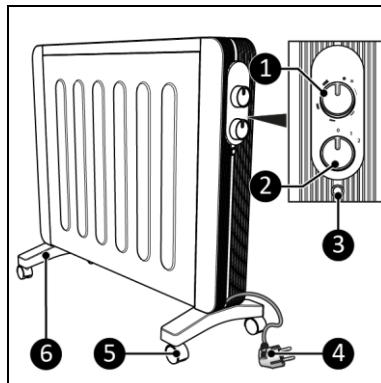

Figure 2
The product is an easy-to-use electric heater for indoor use (Figure 2).
2. Make sure the control knob is in the '0' position (Figure 2, pos. 2).
1. Turn the control knob (Figure 2, pos. 2) to the desired heating setting (1 or 2).